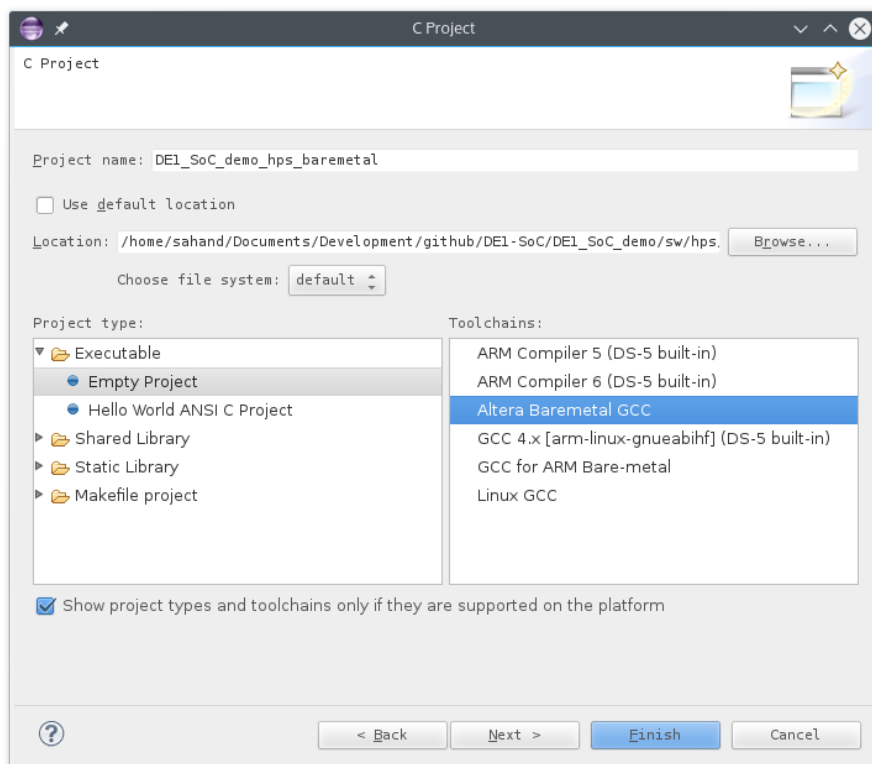

Figure 12-3. New C Project Dialog
- f. You should have something similar to Figure 12-3. Then, press the “Finish” button to create the project.